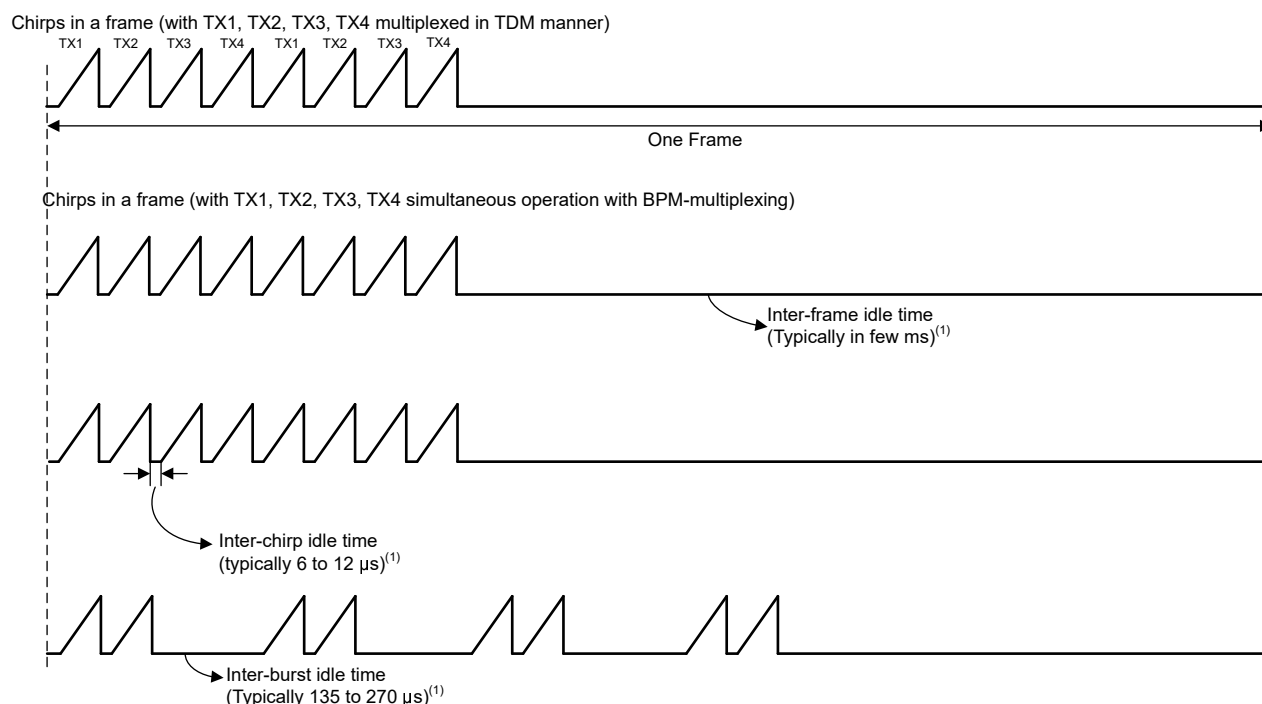

Figure 7-9. Chip Profile Supported by Timing Engine
- Refer to Figure 7-9 for chirp profile supported by timing engine.